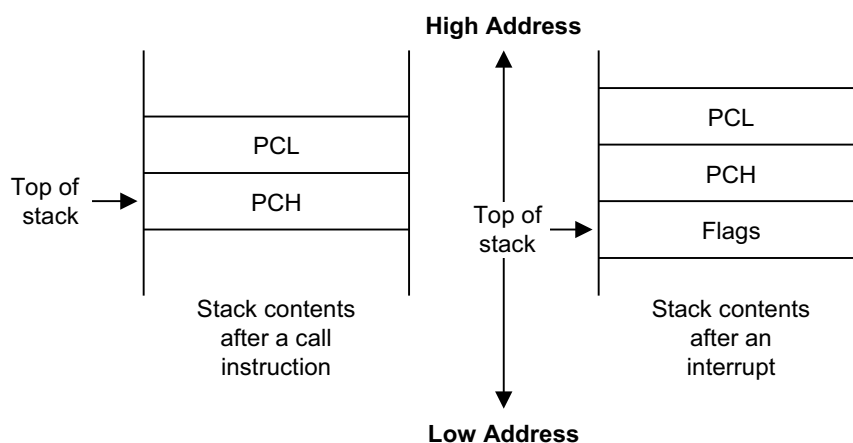

Figure 23. Stack Operations
The stack pointer (SP) always points to the stack frame stored on the top of the stack, as shown in Figure 23.